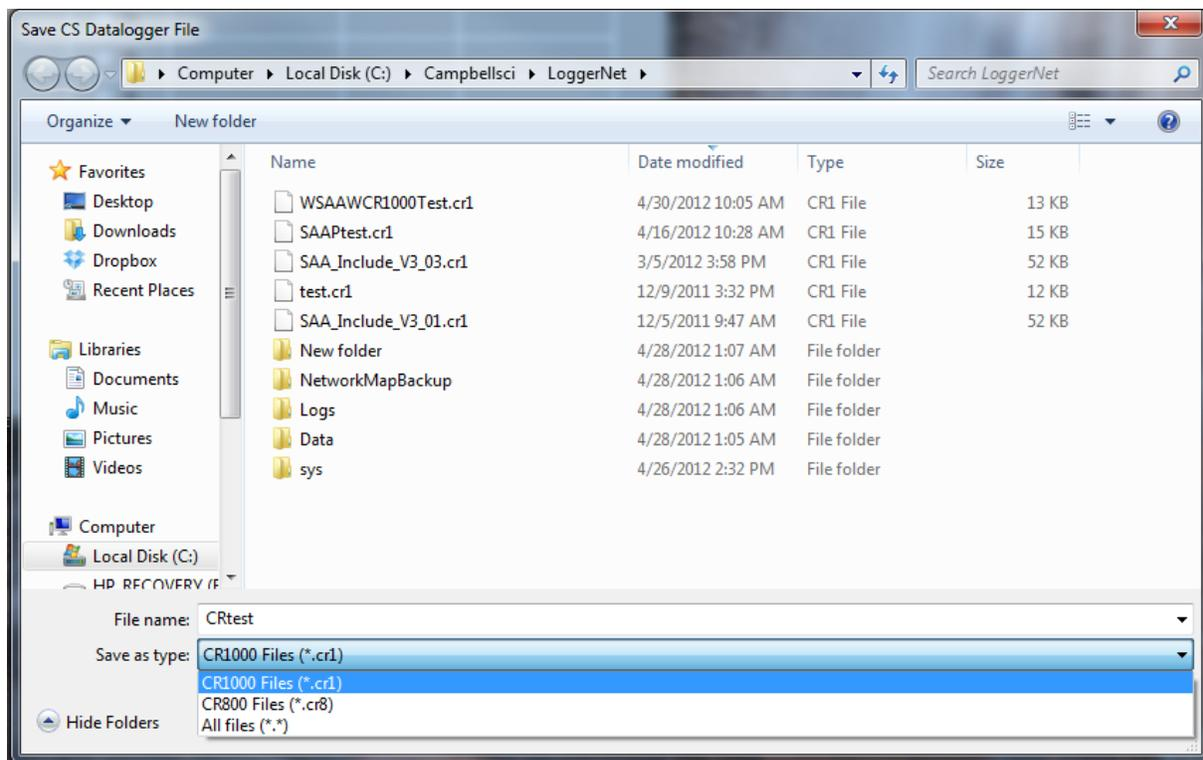

Figure 5.3: Saving a logger program created using the SAACR\_FileGen utility.
- Generate CR1/CR8 File: The main difference between the CR800 and CR1000 is the number of COM ports available, and thus the number of SAAs that be connected to each. For a CR1000, up to 20 SAAs can be connected at one time, but for a CR800 only 10 SAAs. (Please contact Measurand or Campbell Scientific for more information on the differences between the two). To choose the data logger, click the “Generate CR1/CR8 File” button, and select the desired file type in the save screen (Figure 5.3). An SAA\_Include file will also be generated at this time.